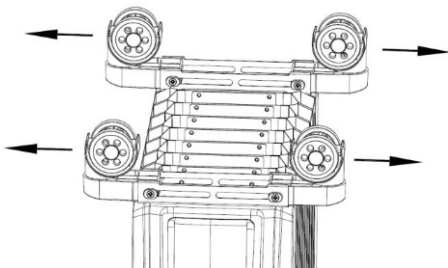

Fig 1
- Pull out the wheelbases to both outmost sides, (see Fig 1).